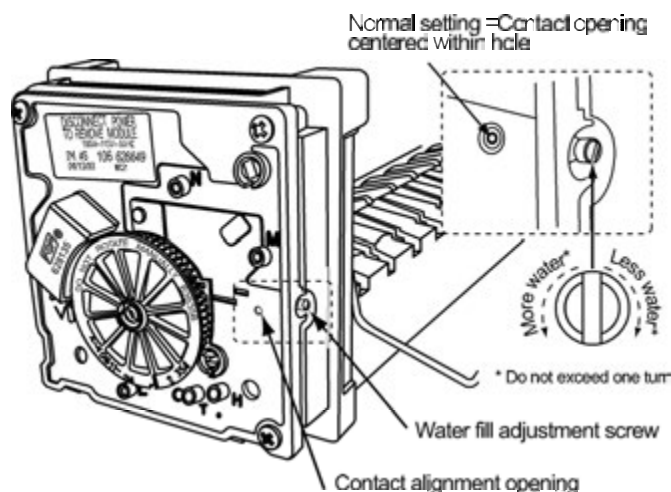

Figure 60. Water fill adjustment screw
5. **Locate** the screw and contact alignment opening shown in Figure 60.
6. Determine the position of the hole in the internal contact plate. *Do not adjust the water fill adjustment screw if the hole is centered within the housing hole.* See Figure 60.
7. To readjust the **water fill level** turn the adjustment screw clockwise or counterclockwise as required until the contact hole is centered in the module hole. See Figure 60.